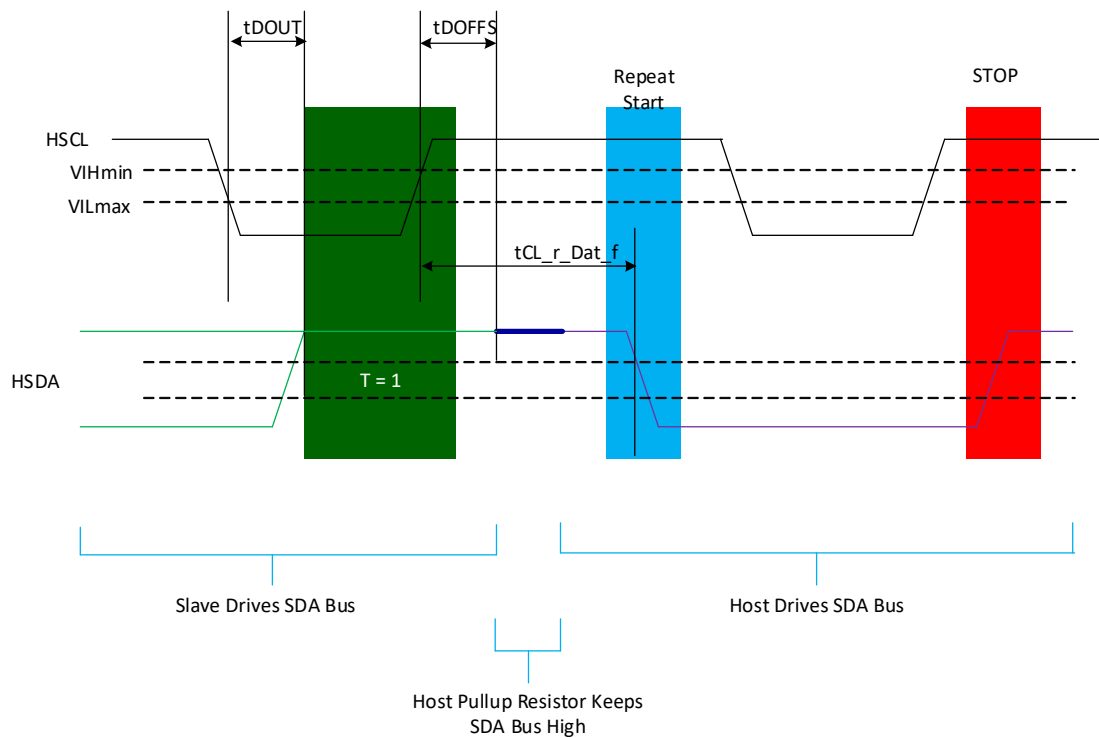

Figure 16. $T = 1$; Host Ends Read with Repeated START and STOP Waveform
- Figure 16 shows how the Host ends slave device operation.